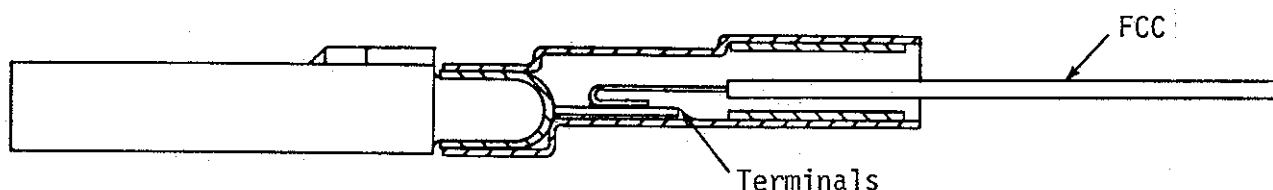

Figure 12. FCC Inserted Into Boot of Insert
1. Insert the prepared FCC into the boot of connector insert A or B, as specified on the cable assembly drawing (Figure 12).